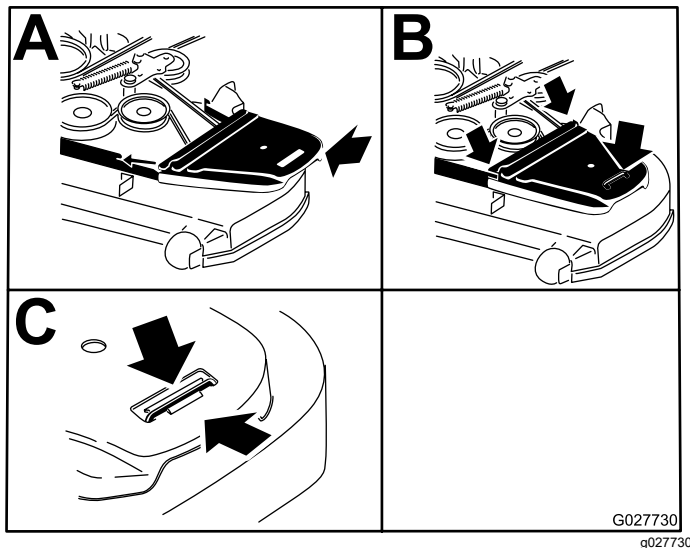

Figure 82
11. Install the belt covers (Figure 82).